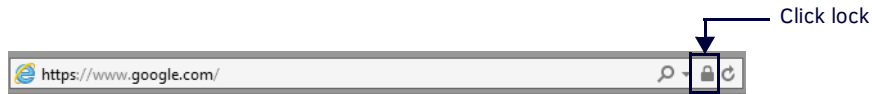

FIG. 66 Click lock in address bar
2. Click the lock on the right hand side of the address bar (FIG. 66).